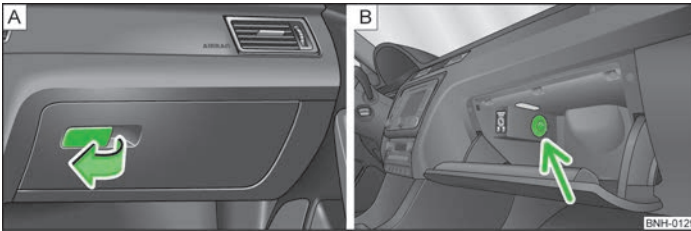

Fig. 48 Dash panel: Storage compartment on the front passenger side
- Pull the handle of the flap in the direction of the arrow » Fig. 48 - A and fold down the flap.
Use the rotary switch » Fig. 48 - B to open/close the air supply.